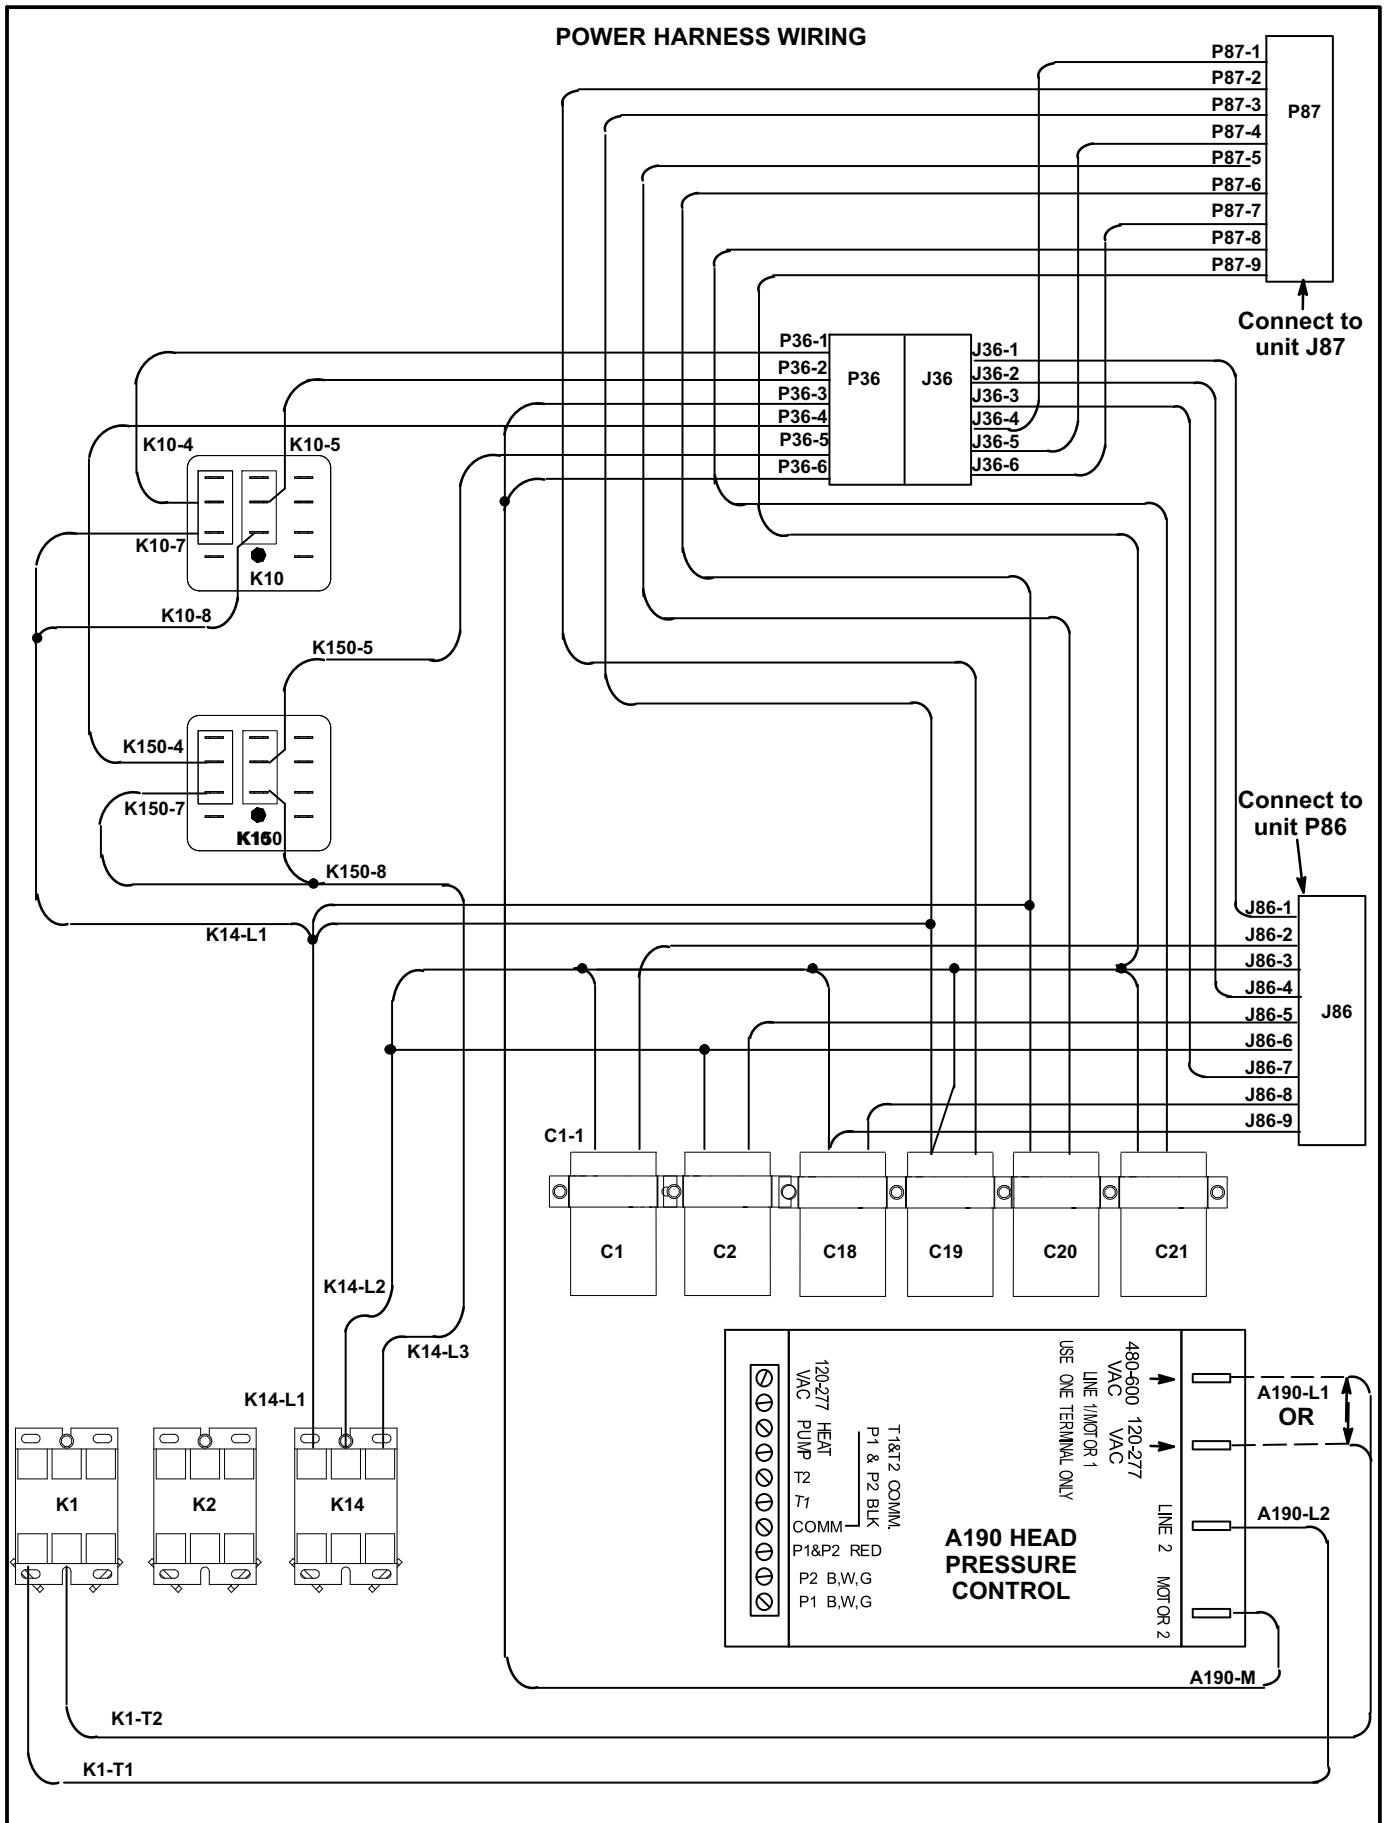

FIGURE 6
- 6- Install the kit power wiring harness as shown in figure 6.